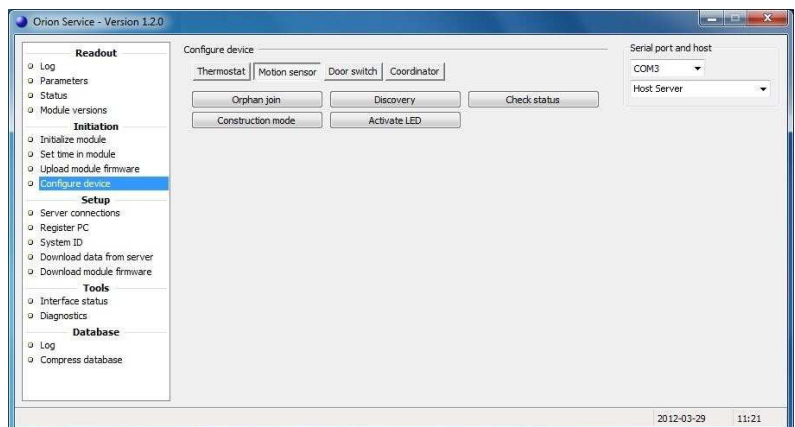

Figure 26
5. Wait a few seconds and then click the **Check status** button in the **Motion sensor** tab of **Configure device**; see Figure 26. If the device has joined successfully, the message 'Device is online' is shown. If that message is not displayed, wait a few more seconds and check the status again. If still offline, repeat the discovery process.